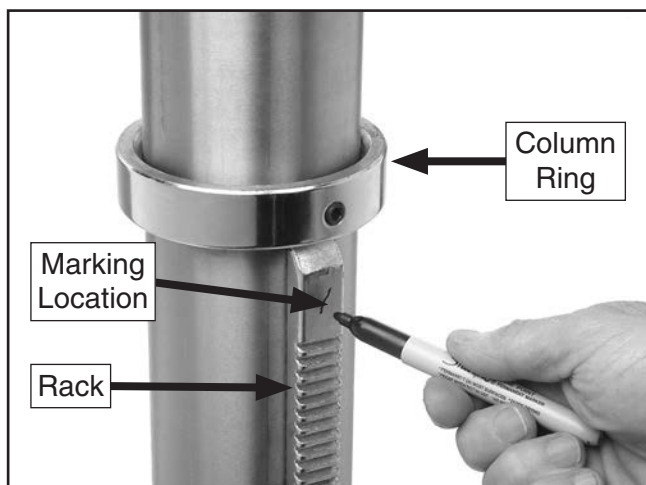

Figure 14. Marking top of rack to show which end is up.
4. Mark top of rack, as shown in **Figure 14**, to keep track of which end is up.